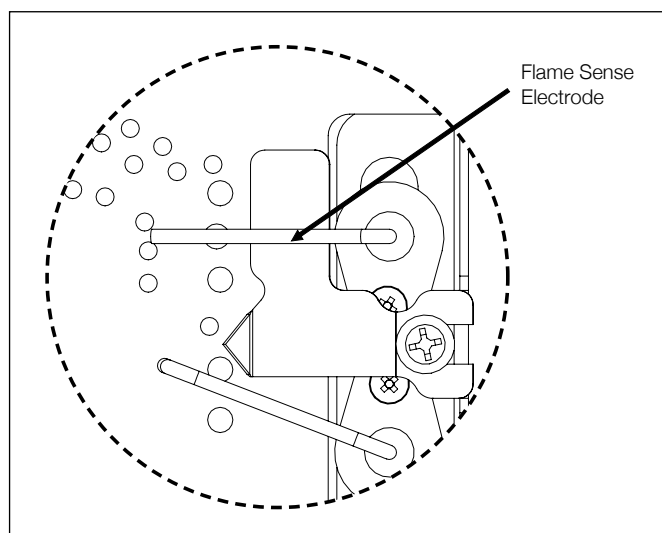

FIG 32
6. Replace in reverse order, checking correct location of spark/sense electrodes. Spark gap between electrode and spark plate is 6 - 8 mm Refer **FIG 32**.